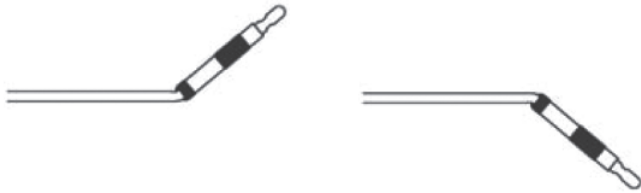

Figure 6
- b. Next straighten the pusher back, continue bending and straightening until the pusher tubing opens exposing the release element (Figure 6).